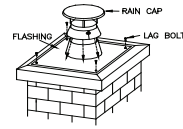

Fig. 5
- Install the top support on top of the masonry chimney using lag bolts and/or cement (Fig. 5).
- Slip the support collar over the liner until it rests on the support. Tighten the bolt to fasten it to the liner. (Fig. 5)